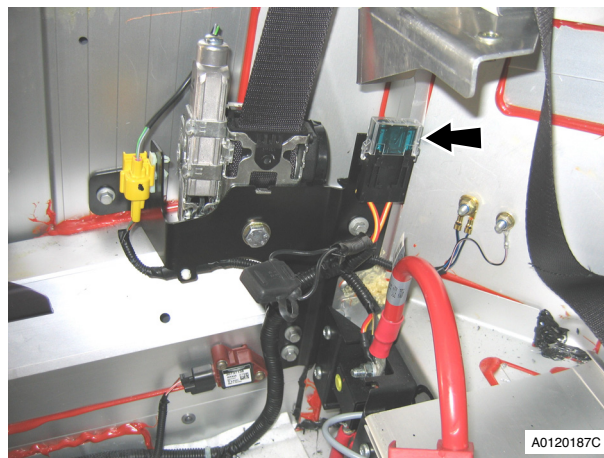

Fig. 17
51. Release in-line fuse from body (see Fig. 17).